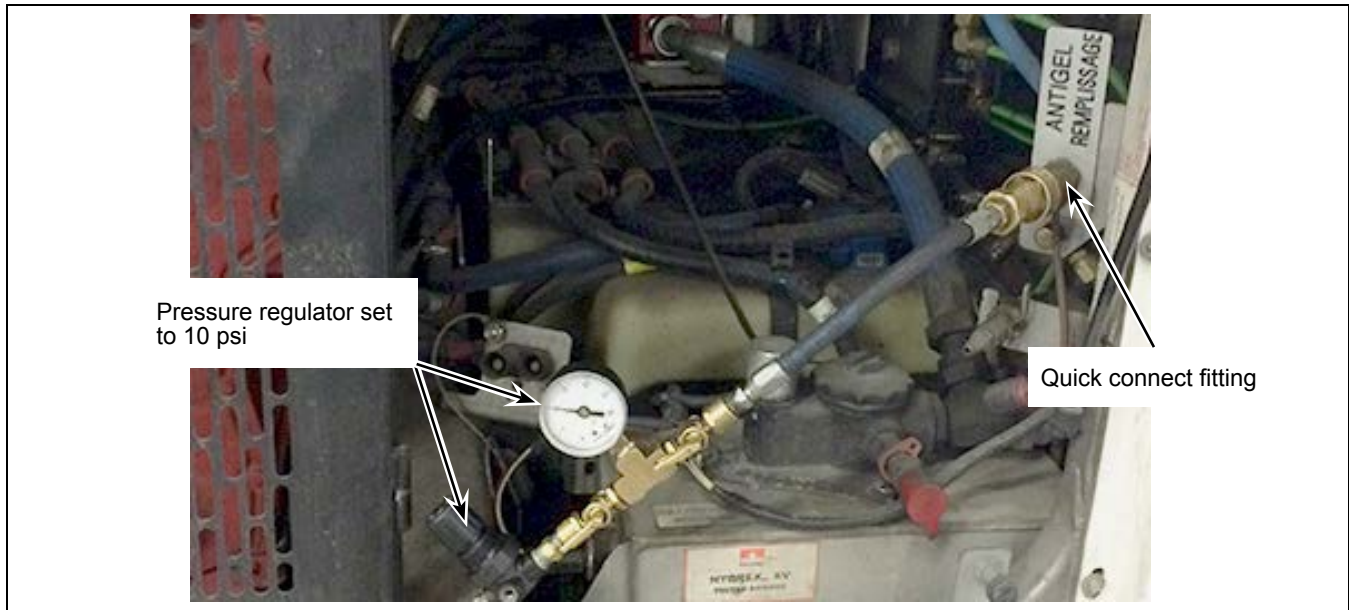

Figure 2 - Coolant Filling Hose Equipped with a Pressure Regulator
- 1.4. Connect a coolant filling hose equipped with a pressure regulator to the quick connect fitting and set the regulator to 10 psi. See Figure 2.